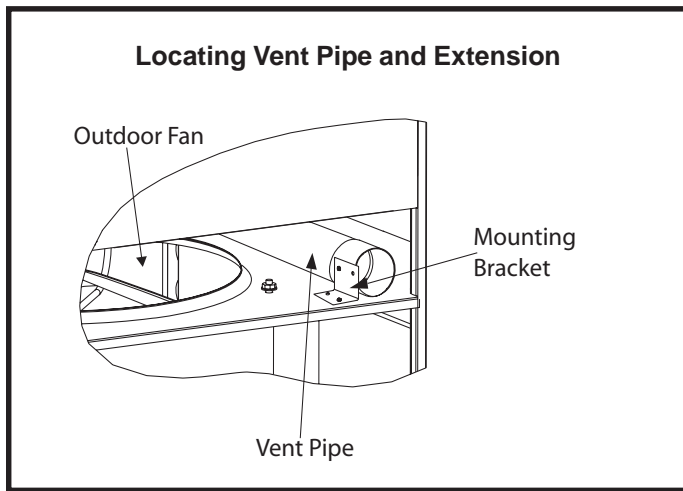

Figure 3
2. The vent pipe and vent pipe extension is located to the right of the outdoor fan (see Figure 3).